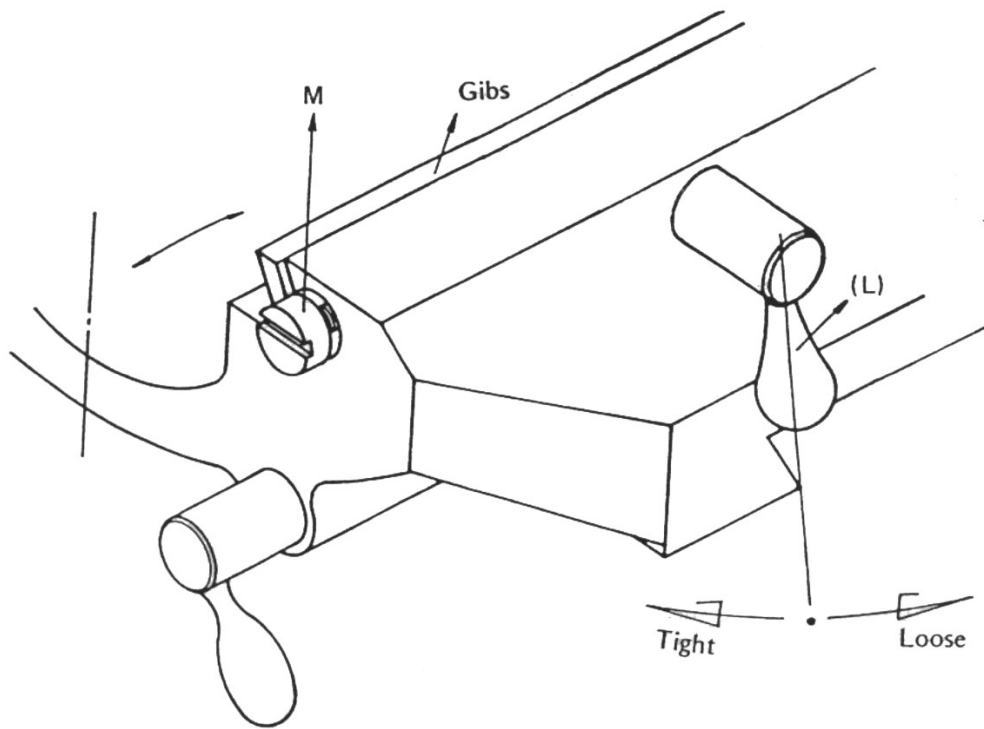

FIG10-3
10.2.1 Adjustment of work table gibs (vide figure 10-3):
- a. Loosen the lock lever (L).
- c. Use a screwdriver and adjust the gib screw (M) on both sides of saddle seat.
- d. Adjusting skill: if the turning of crank (F) (vide figure 10-3) is sensed too loose, loosen slightly the adjusting gib screw on the left side. Turn the crank again to see if it is in good tightness. otherwise, loosen the left adjusting gib screw and lock the